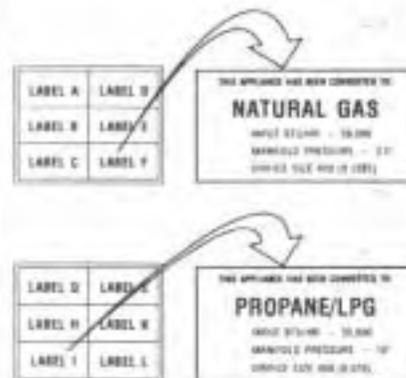

Figure 54
**Step 10.** Attach conversion kit label to the rating plate on the appliance; Label F for units converted to natural gas or Label I for units converted to propane (Figure 54).